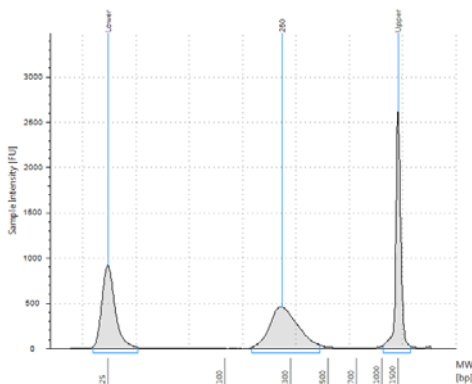

Figure 9 Analysis of amplified DNA using a D1000 ScreenTape.
- 5 Verify that the electropherogram shows an average DNA amplicon size of 250 to 300 bp. A sample electropherogram is shown in Figure 9.